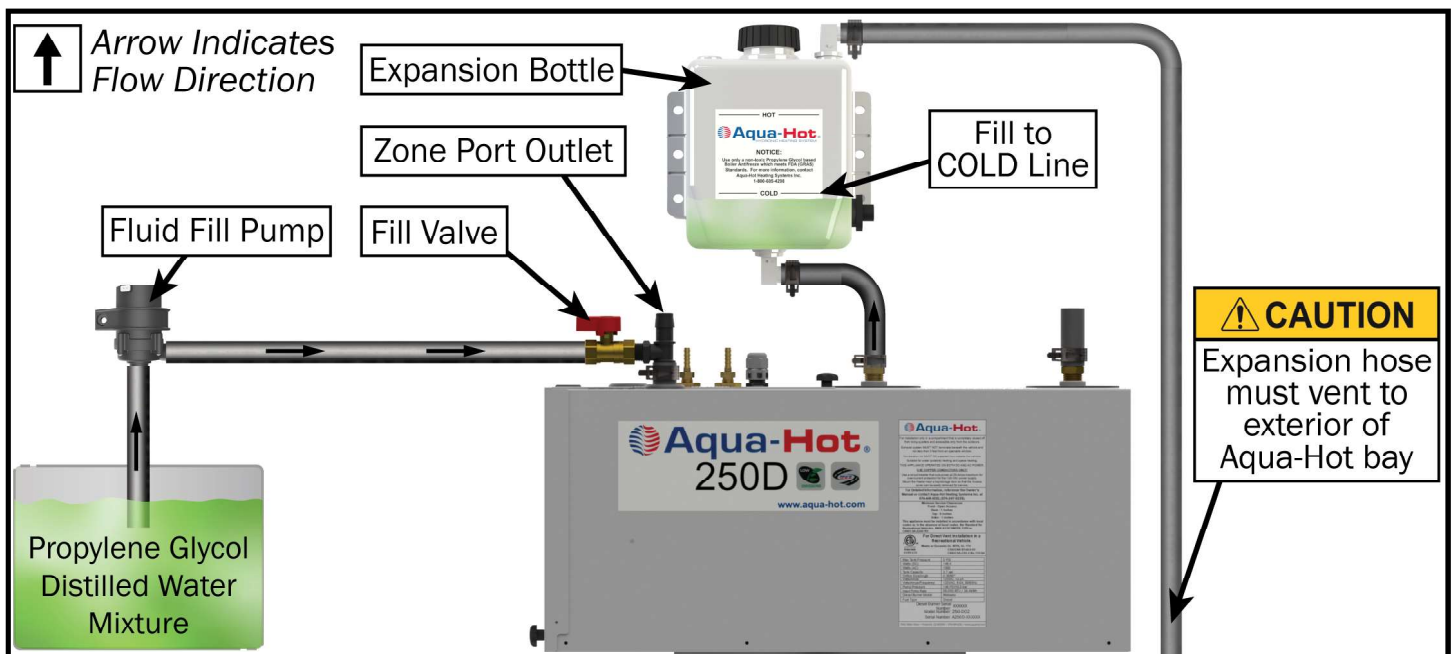

Figure 57
1. Locate the fill valve at the zone port outlet (Figure 57).